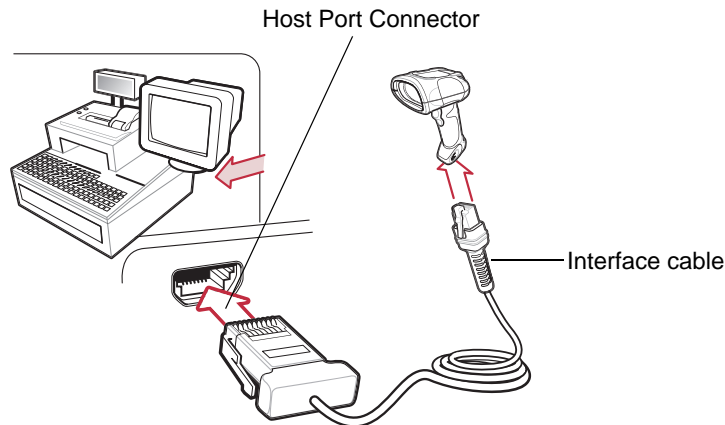

Figure 8-1 IBM Direct Connection
- ✓ **NOTE** Interface cables vary depending on configuration. The connectors illustrated in Figure 8-1 are examples only. The connectors may be different than those illustrated, but the steps to connect the scanner remain the same.